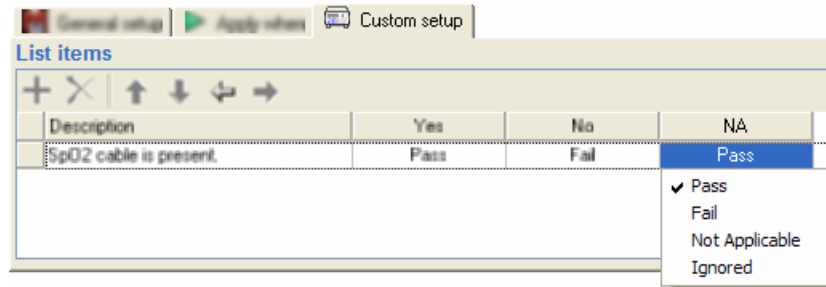

Figure 62 - Checklist's option status menu
- 7 Click the cell below the column header named **NA** (see Figure 62).